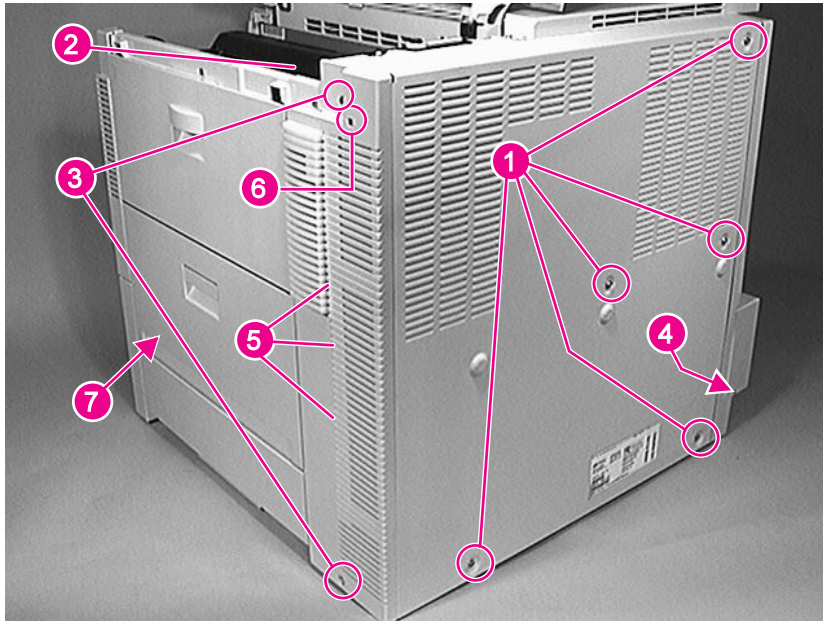

Figure 6-6 **Back Cover**
- 1 Remove 5 screws (figure 6-6, callout 1).
- 2 Open the top cover door, and remove 1 screw (figure 6-6, callout 2).
- 4 Remove 2 screws (figure 6-6, callout 3) from the plastic panel to the left of the metal back cover.
- 5 Carefully release the cover around the AC input connector (figure 6-6, callout 4) at the lower right of the back cover, and slide the right side of the cover slightly forward.
- 6 Carefully release the retaining tabs (figure 6-6, callout 5) on the plastic panel to the left of the metal back cover by gently pulling the cover to the left while moving both pieces away from the printer chassis.
- 1** Remove the back cover assembly (see figure 6-6).